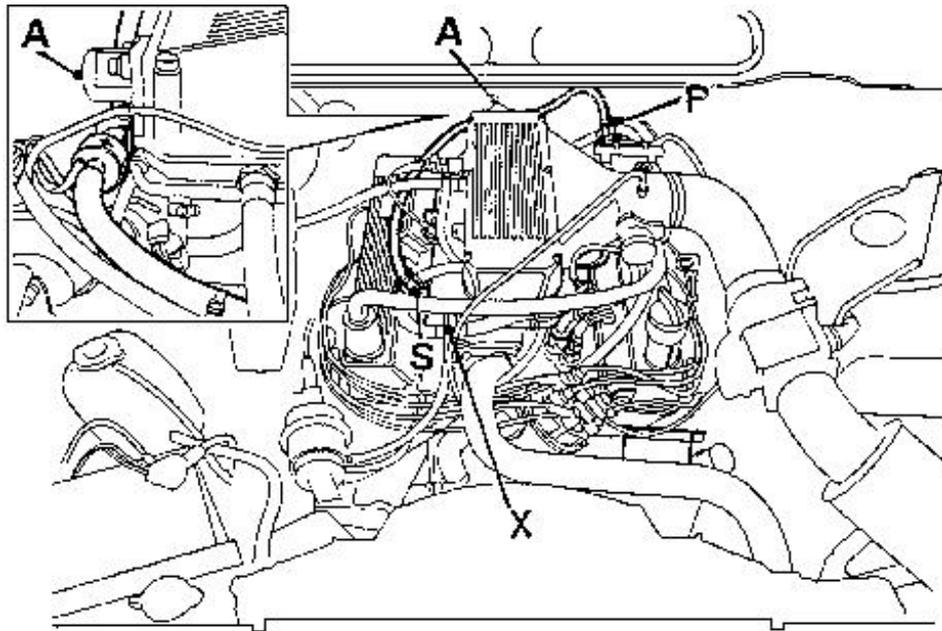

Fig.1
1. Mount the supplementary air valve on the bottom bolt of the over-run valve fixing, 'A' in fig. 1, at rear of plenum. The flow arrow should point away from throttle body side of engine. It may be necessary to adjust the valve-fixing strap to allow the outer hole to be used.
2. Cut the hose running from near the idle screw gallery to the air rail input at position 'P' in fig. 1 and insert the unrestricted Tee piece. It is necessary to shorten the cut hose to avoid fouling the throttle mechanism (Important: Make a further check upon completion).
4. Cut the hose running from the Efi Extra Air valve ('X') to plenum chamber at position 'S:' in fig. 1 and insert the restricted Tee piece (hole dia. 6mm). Shorten the cut hose as required.